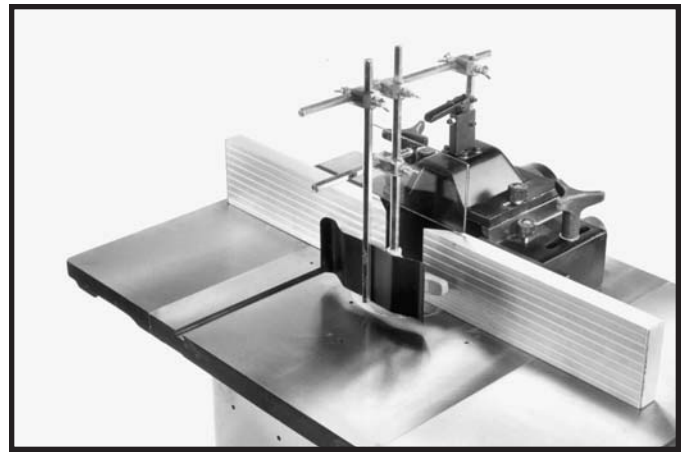

Fig. 29
6. Fig. 29, illustrates complete fence and guard assembly mounted in the alternate position, 90 degrees to miter gage slot.